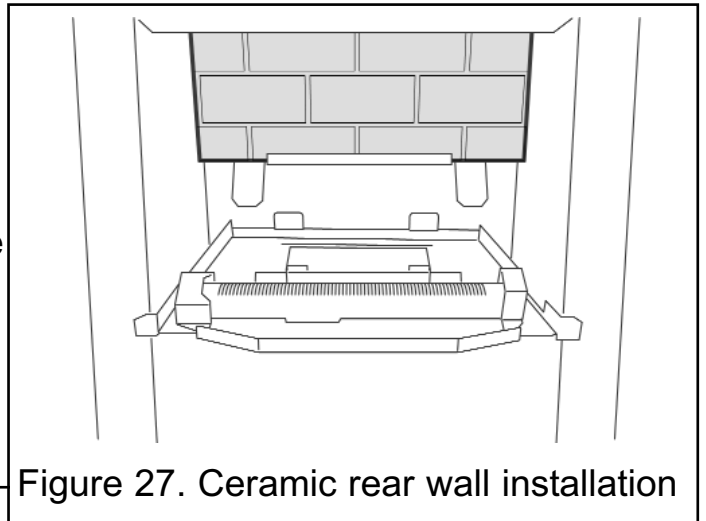

Figure 27. Ceramic rear wall installation
1. Fit the ceramic rear wall inside the “L” bracket on the back face of the burner compartment. Push the ceramic wall flat against the back face of the burner compartment (See figure 27).